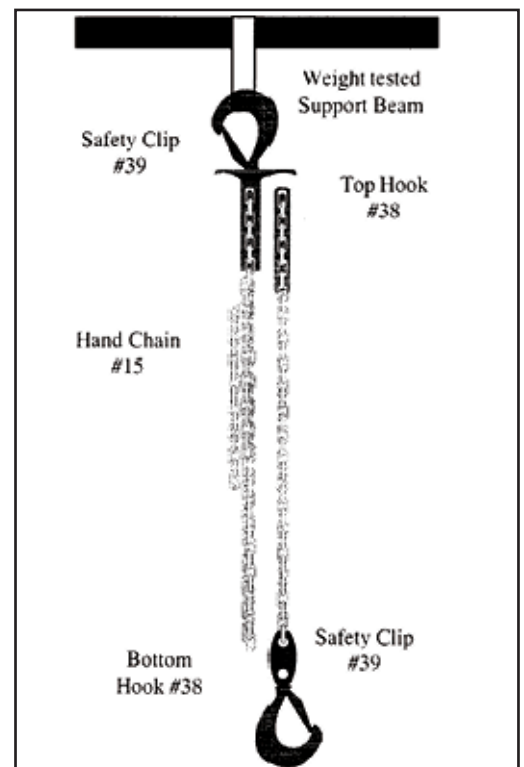

Figure 1- Setting up the Hoist
- **Step 1.** Hook the top HOOK (#38) of the Chain Hoist onto the hoisting support as in Fig. 1.